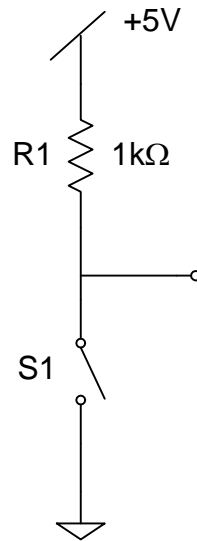
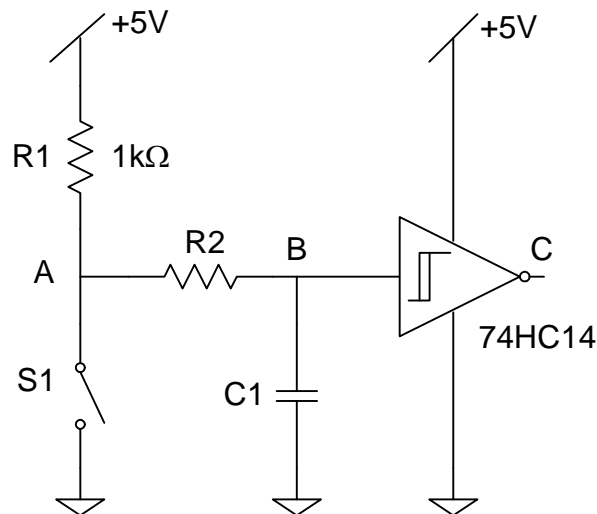

Fig. 1. Mechanical switch circuit.
Fig. 2. Switch debouncer using a Schmitt trigger.
- The Spice file *BounceSwitch.cir* contains a simulation of the switch circuit of Fig. 1 for the case of a bouncing switch. Perform a simulation of the switch debouncer circuit of Fig. 2 in Spice. Use as a starting point the *BounceSwitch.cir* file on the web page. Your debouncer circuit should be connected to node 1 of the provided circuit. Select $R2 = 1k\Omega$ and find the smallest capacitance value for C1 that eliminates the bounce. Use the 7414 subcircuit contained in the *eval.lib* library. Put in your lab notebook a plot of the voltages at points A, B and C for $C1=0$ and for the smallest value that eliminates the bounce. Now put a capacitor value 100 times bigger and run a simulation. What is the effect on the output of the Schmitt trigger?
Build the simple switch circuit shown in Fig. 1. Acquire the switch closing (turn on, high-to-low) and switch opening (turn off, low-to-high) transitions with the scope in single shot mode. For which transition do you expect to see bouncing? Do this at a 10ms/div time scale. Zoom in on the saved waveform to look for bounces. Do you see any? Change the time scale to 40 μ s/div and repeat. Probably you were not able to see the bounces at 10ms/div. Explain why. Include the plots in your report.
Build the switch debouncer shown in Fig. 2. Include in your report plots of the turn on and turn off transitions at points A, B and C.
Connect a second Schmitt trigger at point C of Fig. 2. Measure the propagation delay. Produce a scope picture showing the waveform at point C and at the output of the Schmitt trigger that you added. Use cursors to measure the propagation delay.